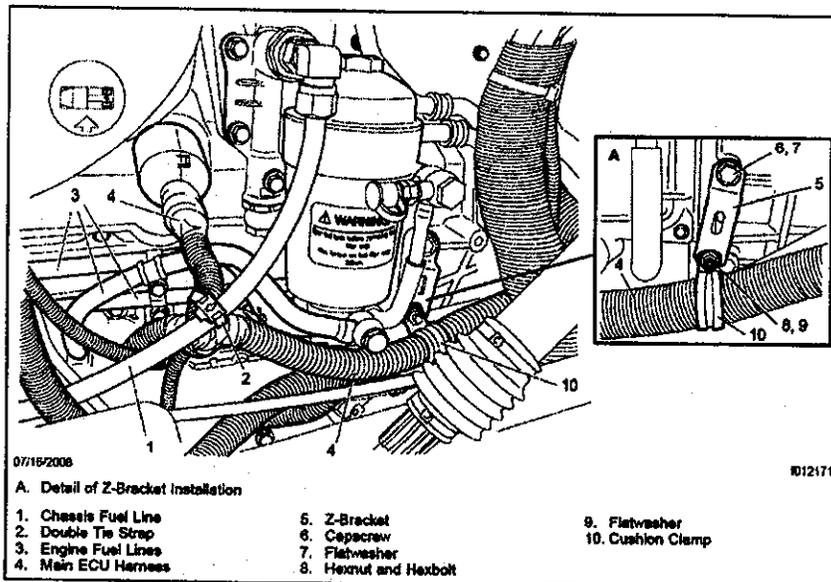

Figure 3 – Rerouted Main ECU Harness and Fuel Lines
7. Reroute the ECU harness, making sure there is enough clearance between it and the engine fuel lines. Using a new cushion clamp and new fasteners, secure the harness to the new Z-bracket. Reference Figure 3.